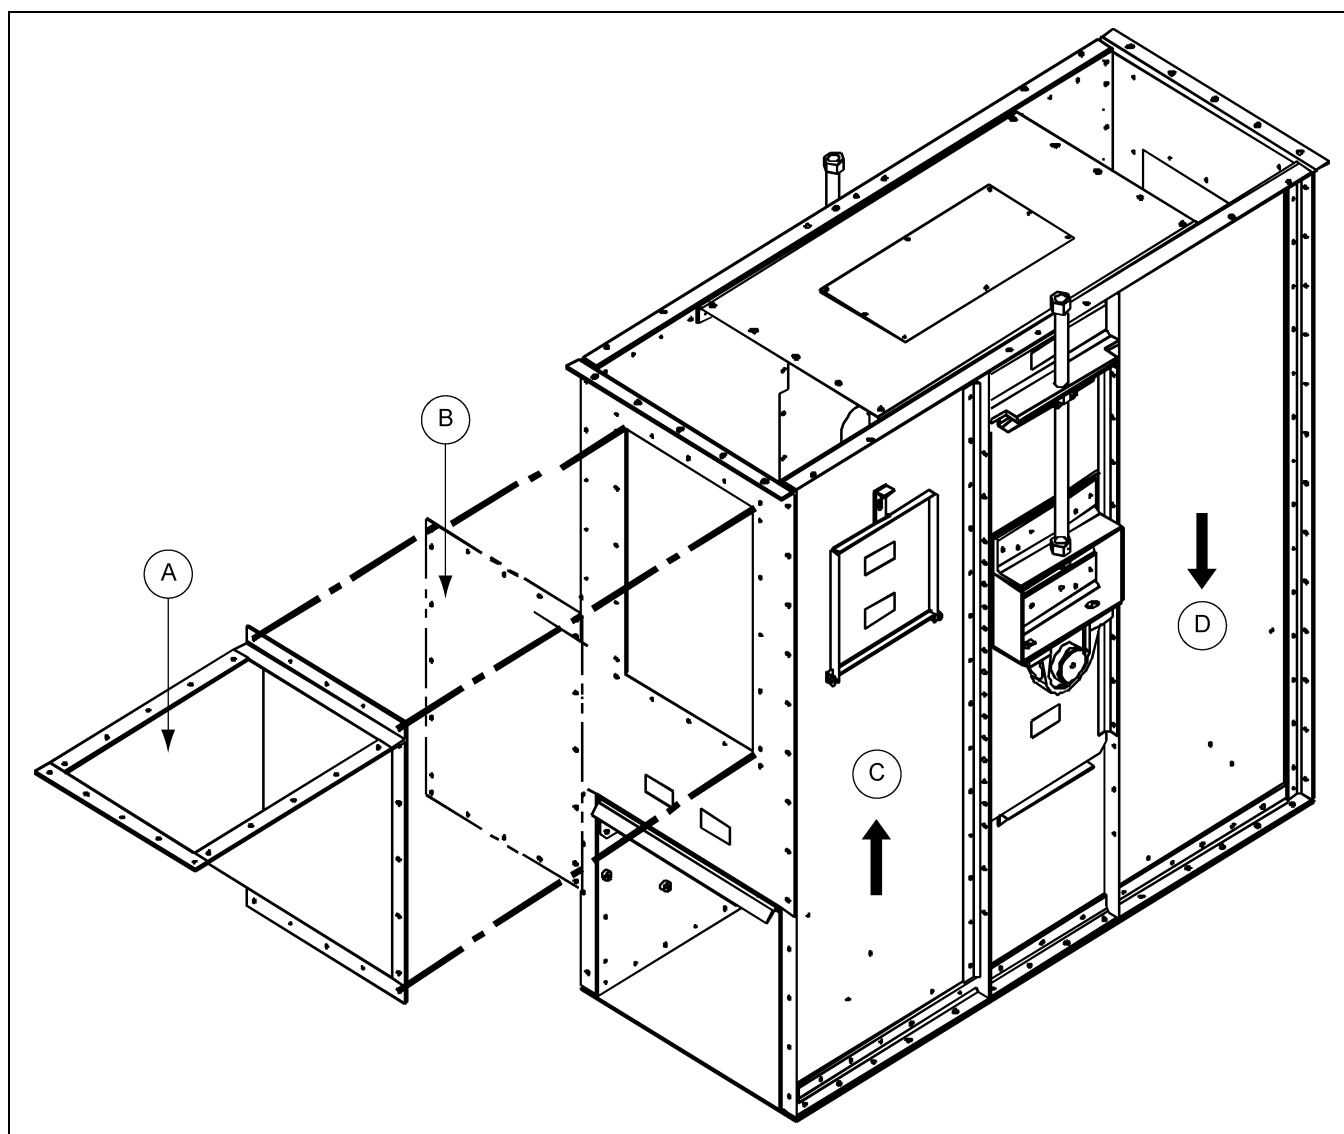

Figure 6A Boot Section
3. Identify the up and down side of boot. (*See Figure 6A.*)